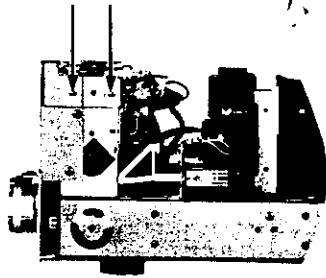

Figure D1
- c) Remove four screws from the Front Panel — two screws from the left side and two screws from the right side as shown in Figure D1 & D2.